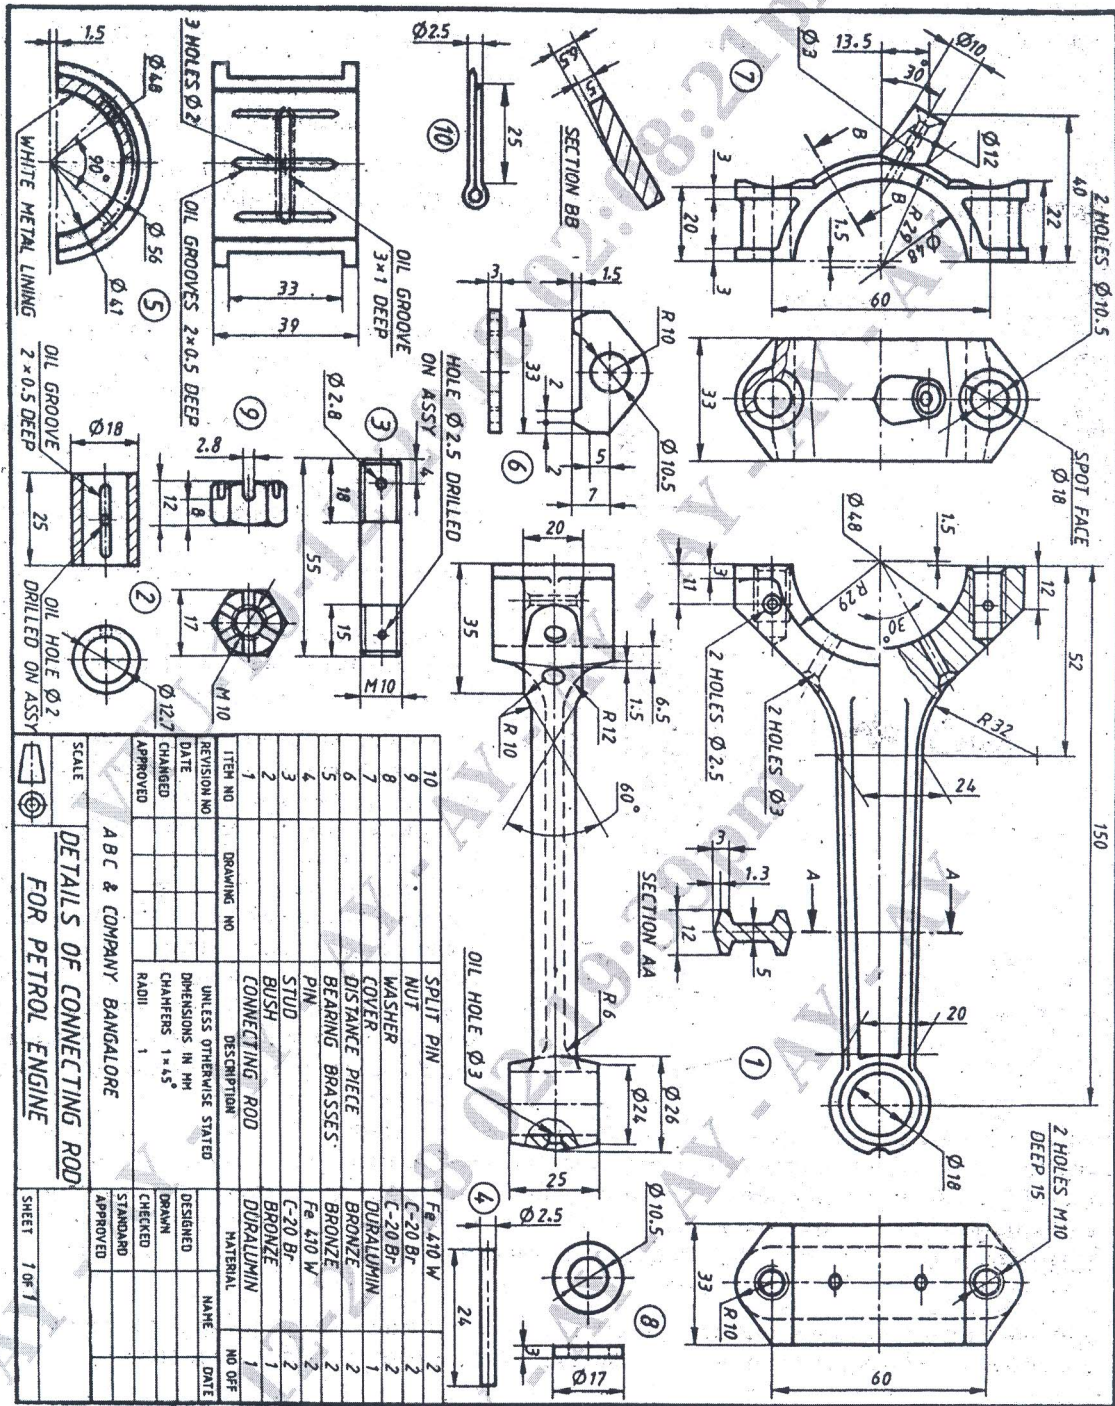

Figure 3 : Details of Connecting Rod
- Q.No.6** Details of IC Engine Connecting Rod are shown in the following figure 3. Assemble the parts and draw the following views. (50 Marks)